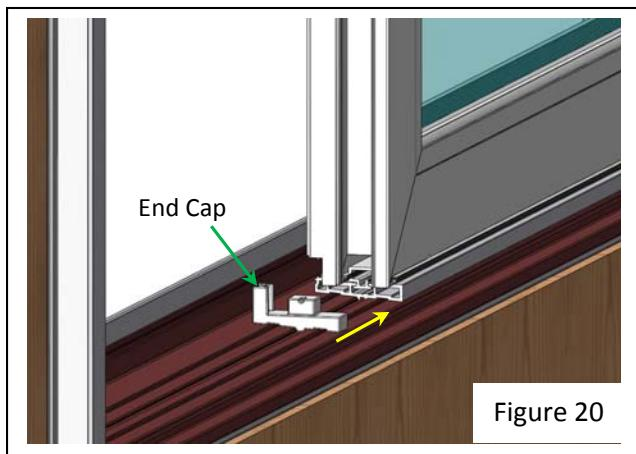
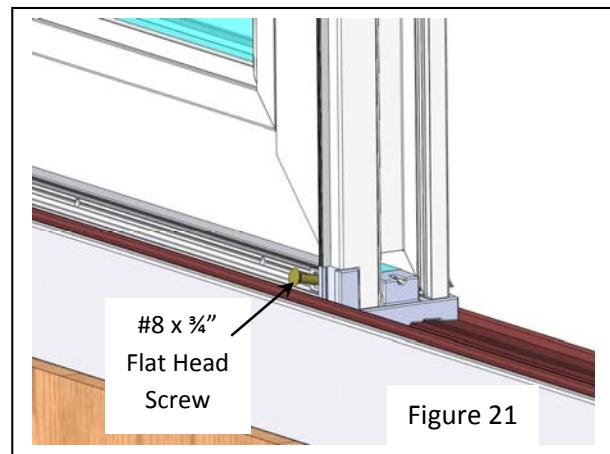

Figure 20
Figure 21
14) Push the end cap into the end of the fixed panel support as shown (Fig. 20). It might be necessary to lift the panel slightly. There should be no gap between the cap and the panel support when the cap is fully seated. While holding the cap in, drive a #8 x $\frac{3}{4}$ " Flat Head screw into the hole in the end cap (Fig. 21). NOTE: The end cap is shown without the finseal pads for clarity.